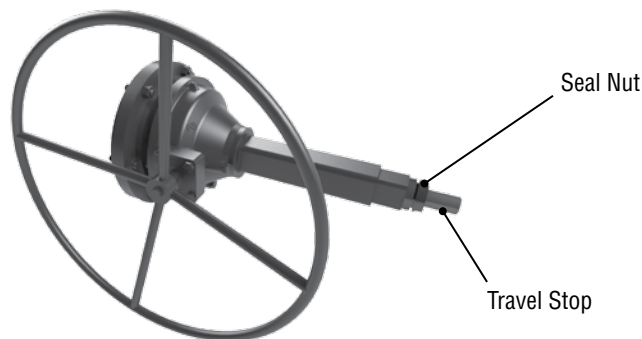

Figure 8 – Bevel Gear Manual Override
- 2.3.1.1 Loosen the seal nut with a proper wrench (Figure 8).
- 2.3.1.2 While keeping the seal nut stationary, screw or un-screw the travel-stop (Figure 8) bolt using a proper Allen key.